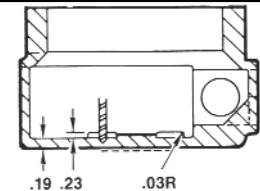

Figure 2. Mounting Pad and Back Wall Dimensions
- Holes can be drilled and tapped in the mounting pads. See Figure 2.